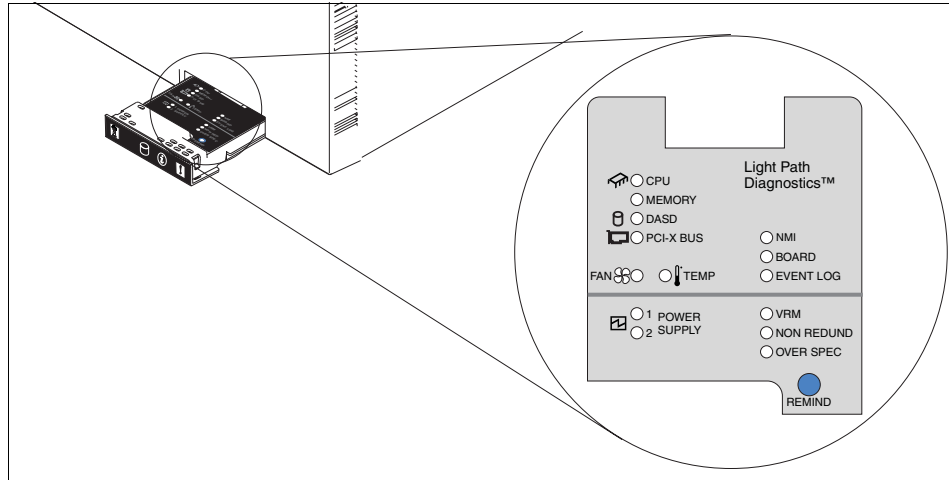

Figure 1-15 Light path diagnostics panel on the x455
To limit the need to slide the server out of the rack to diagnose problems, a light path diagnostics panel has been incorporated in the front of the x455, as shown in Figure 1-15. This panel can be ejected from the server to view all light path
As illustrated in Figure 1-15, light path diagnostics are able to monitor and report on the health of CPUs, main memory, hard disk drives, PCI-X slots, fans, power supplies, power modules and the internal system temperature.
- ▶ Level 2 is the pop-out panel, as shown in Figure 1-15.
The pop-out panel (Figure 1-15 on page 28) also has a remind button. This places the front panel system-error LED into remind mode, which means it flashes briefly every two seconds. By pressing the button, you acknowledge the failure but indicate that you will not take immediate action. If a new failure occurs, the system-error LED will turn on again and no longer blink. The system-error LED remains in the remind mode until one of the following situations occurs: